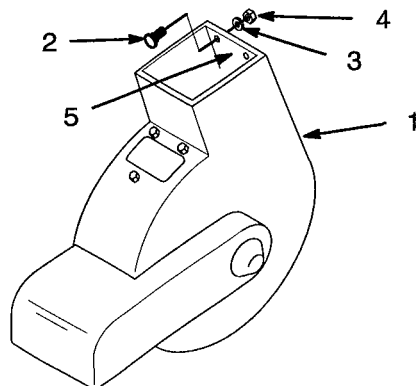

Figure 19
1. Remove adaptor from blower. Remove five bolts and pull wear strip from blower (Fig. 19).
2. Clean inside of blower thoroughly. Slide new wear strip inside blower and install three bottom bolts, washers and nuts (Fig. 19).
3. Push wear strip tight against blower and install (2) top bolts, washers and nuts (Fig. 19).